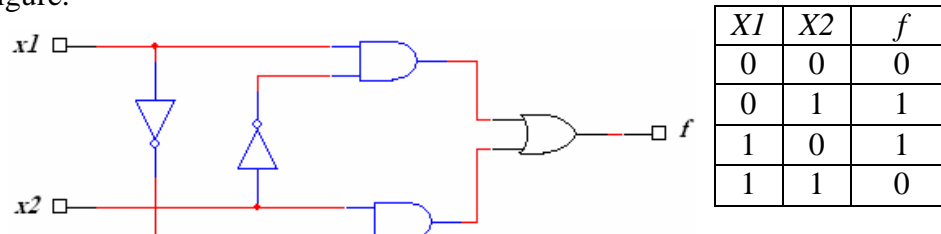
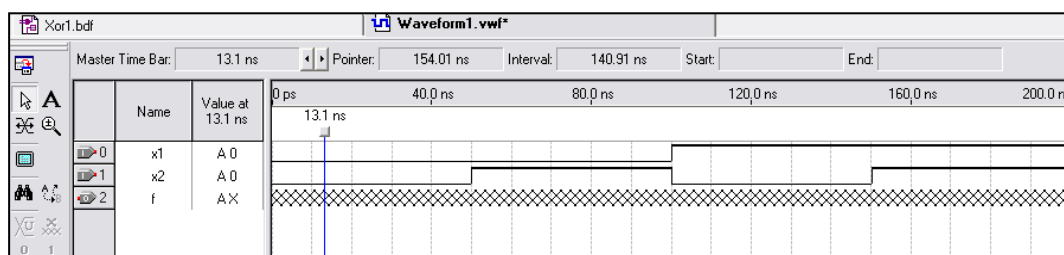
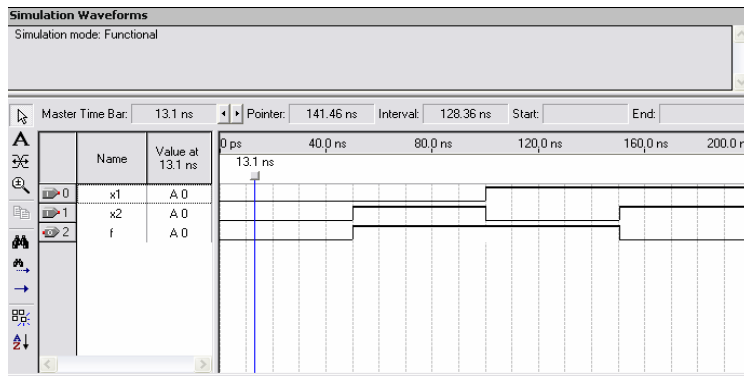

Figure 9. The Xor function circuit.
Figure 32. Setting of test values.
Figure 34. The result of functional simulation.
As a design example, we will use the Xor circuit shown in Figure 9. The circuit has two input switches $x1$ and $x2$, where a closed switch corresponds to the logic value 1. The truth table for the circuit is also given in the figure.
However, for our tiny circuit we can simulate all different combinations (00, 01, 10, 11) given in Figure 9. We will use four 50-ns time intervals to apply the four test vectors. We can generate the desired input waveforms as follows. **Click on the waveform name for the x1 node.** Once a waveform is selected, the editing commands in the Waveform Editor can be used to draw the desired waveforms. Commands are available for setting a selected signal to 0, 1, unknown (X), high impedance (Z), don't care (DC), inverting its existing value (INV), or defining a clock waveform. Each command can be activated by using the **Edit > Value** command or via the toolbar for the Waveform Editor. The Edit menu can also be opened by **right-clicking on a waveform name.**
Set x1 to 0 in the time interval 0 to 100 ns, which is probably already set by default. Next, set x1 to 1 in the time interval 100 to 200 ns. Do this by **pressing the mouse at the start of the interval and dragging it to its end**, which highlights the selected interval, and **choosing the logic value 1 in the toolbar.** Make x2 = 1 from 50 to 100 ns and also from 150 to 200 ns, which corresponds to the truth table in Figure 9. This should produce the image in Figure 32. Observe that the output f is displayed as having an unknown value at this time, which is indicated by a hashed pattern; its value will be determined during simulation. **Save the file as Xor1.vwf.**
Before running the functional simulation it is necessary to create the required netlist; select **Processing > Generate Functional Simulation Netlist**. A simulation run is started by **Processing > Start Simulation**. At the end of the simulation, Quartus II software indicates its Successful completion and displays a **Simulation Report** illustrated in Figure 34. If your report window does not show the entire simulation time range, **click on the report window** to select it and choose **View > Fit in Window**. Observe that the output f is as specified in the truth table of Figure 9.